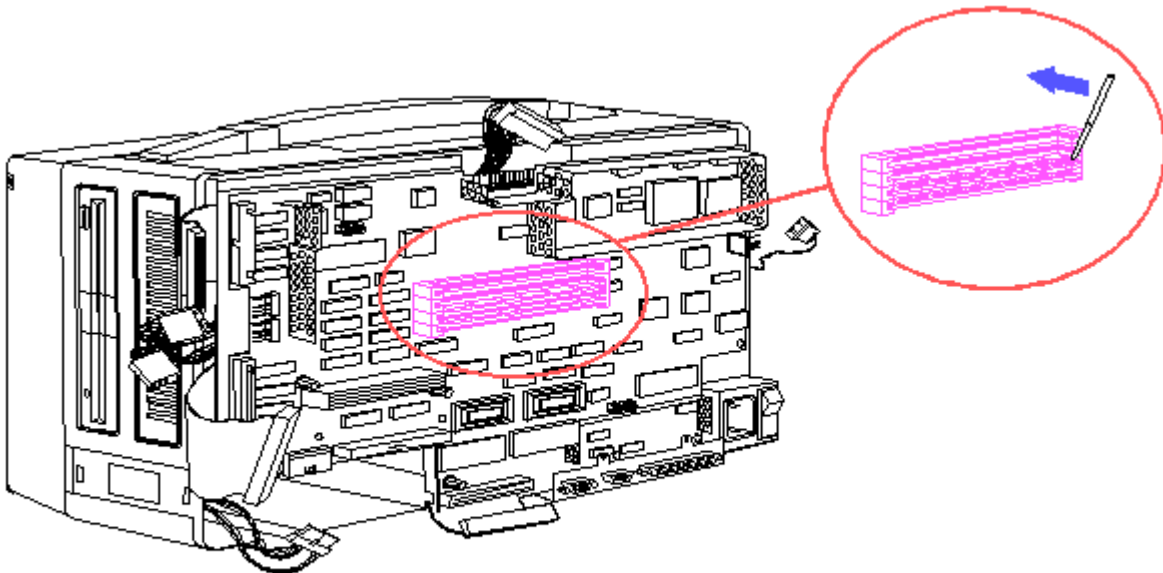

Figure 8-26. Removing the Memory Module from the System Board
6. Grasp the end of the module, pull up, and "peel" it away from its socket (Figure 8-26).